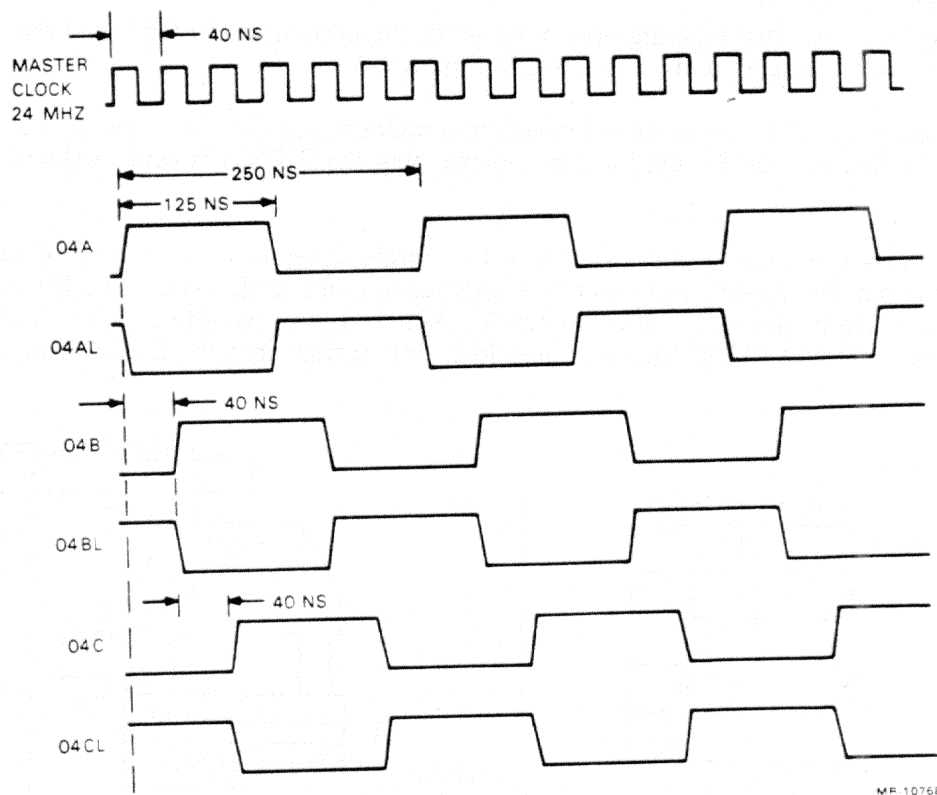

Figure 4-6 Z80A Clock Pulses
4.4.2.3 Z80A Clock Logic – The Z80A clock logic consists of a 6:1 frequency divider and a TTL to MOS level converter. The 6:1 frequency divider provides three symmetrical clock pulses (04A, 04B, and 05C) and their complements (04AL, 04BL, and 04CL) at a frequency of 4.012 MHz. The phase difference between the clock pulses is 40 ns. The 04A clock pulses are converted to MOS voltage levels, then applied to the Z80A processor. The Z80A clock pulse timing is shown in Figure 4-6.